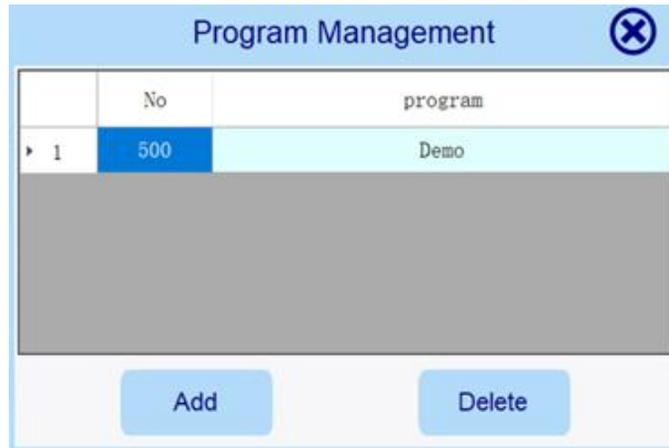

Figure 5-9 Program Management Window
- ▶ This operation needs the admin authorization and the program management window as shown in figure 5-9.